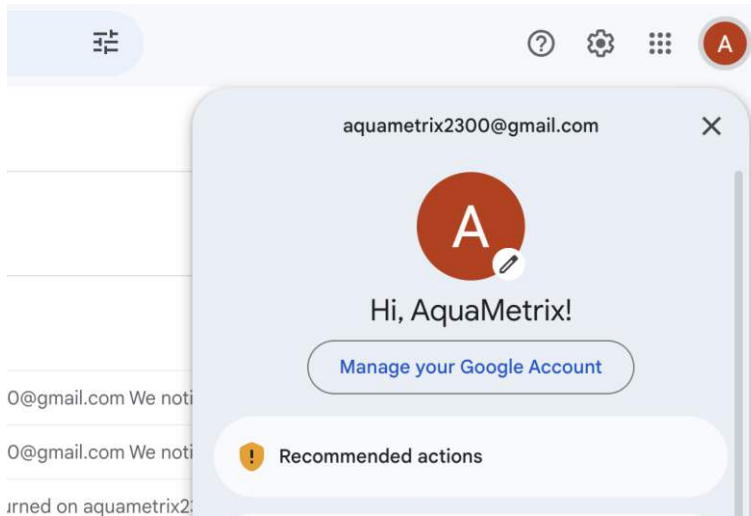

Figure 5-9 - Email configuration Wizard screen showing successful test of the Email server.
7. Click on the **Test Email** button. If successful you will see a message similar to the one in Figure 5-9. If you receive an error message then go back through the Wizard and check the email account settings. See the next section to resolve a possible issue associated with Gmail accounts.